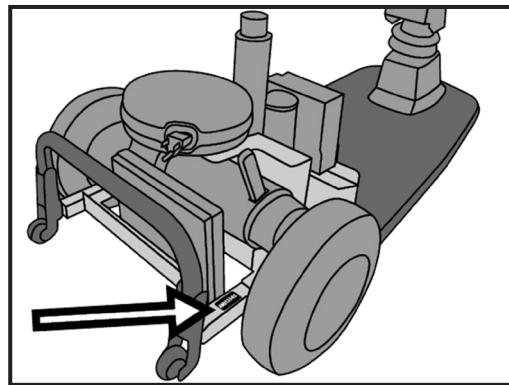

Figure 15
- Under the rear cover next to the right wheel (Figure 15)